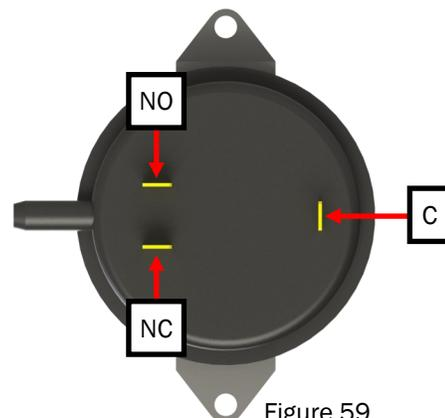

Figure 59
5. Using a digital voltmeter, check the switch for continuity as described below. Reference figure 59 for the exact pin location.